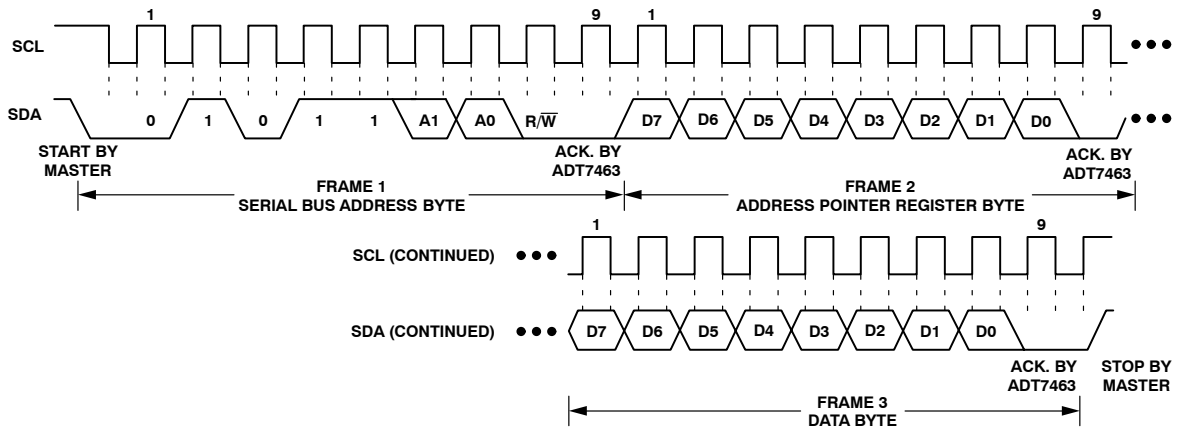

Figure 17. Writing a Register Address to the Address Pointer Register, then Writing Data to the Selected Register
This is illustrated in Figure 17. The device address is sent over the bus followed by  $R/\overline{W}$  being set to 0. This is followed by two data bytes. The first data byte is the address of the internal data register to be written to, which is stored in the address pointer register. The second data byte is the data to be written to the internal data register.
2. In Figures 17 to 19, the serial bus address is shown as the default value 01011(A1)(A0), where A1 and A0 are set by the address select mode function previously defined.